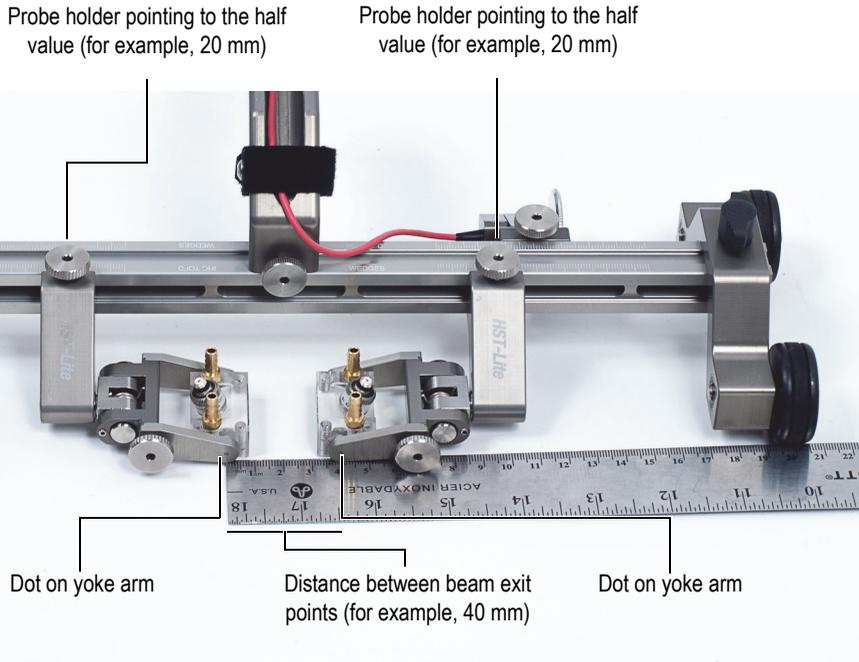

Figure 1-8 Distance between beam exit points (Rexolite wedges shown)
3. Position the probe holders so their indicators point to the half value (for example, 20 mm) on the left- and right-hand side frame rulers (see Figure 1-7 on page 14 and Figure 1-8 on page 15).
- ◆ When using Rexolite wedges, measure the distance between the dots engraved on yoke arms (see Figure 1-8 on page 15).